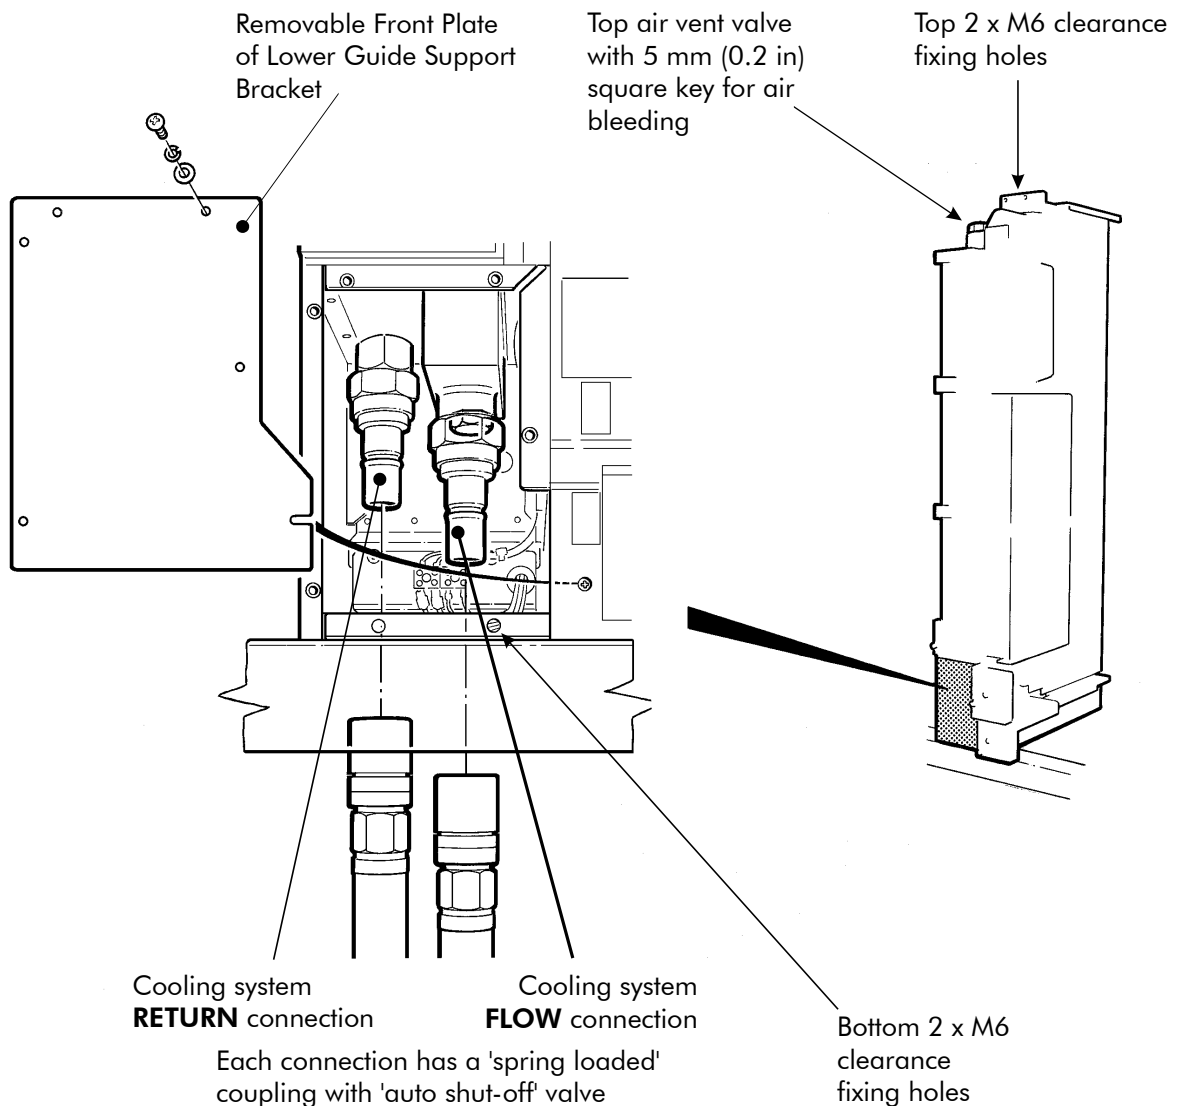

Figure 8-1 MV LCD Module Showing Positions of Piping, Couplings and Valves
- (a) refer to Figure 8-1, release the Removable Front Plate and remove it from the front of the module - note that one fixing screw is accessed through a hole in the insulation for the transistor module;
- (b) refer to Figure 8-1, disconnect the FLOW cooling system flexible hose from the module by releasing the 'spring loaded' couplings - carefully pour the coolant out of the coupling, approximately 20 ml (\approx 0.7 fl oz), into a small container ensuring that it does not spill onto any electronic equipment;
- (c) refer to Figure 8-1, disconnect the RETURN cooling system flexible hose from the module by releasing the 'spring loaded' couplings - carefully pour the coolant out of the coupling, approximately 20 ml (\approx 0.7 fl oz), into a small container ensuring that it does not spill onto any electronic equipment;